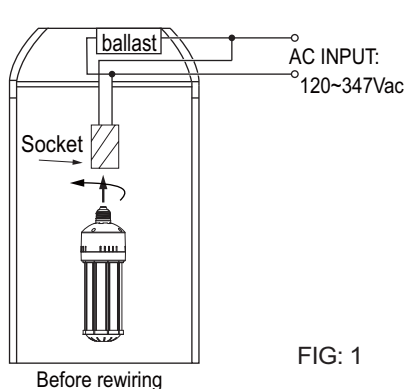

FIG: 1
Step 1- Disconnect electrical power to fixture prior to retrofit. (See FIG:1)